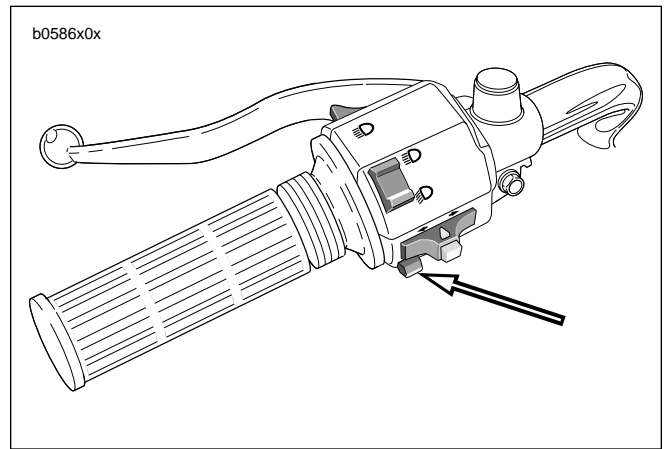

Figure 7-81. Horn Switch
3. See Figure 7-81. Depress horn switch and observe voltmeter reading.